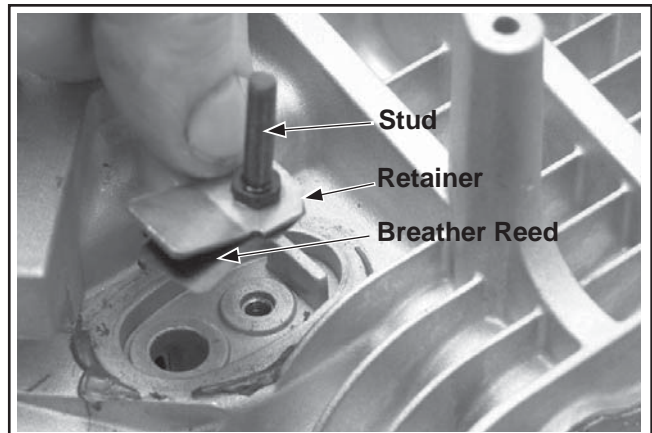

Figure 8-42. Removing Stud, Retainer, and Breather Reed.
2. Unscrew and remove the mounting stud, retainer and breather reed. See Figure 8-42.